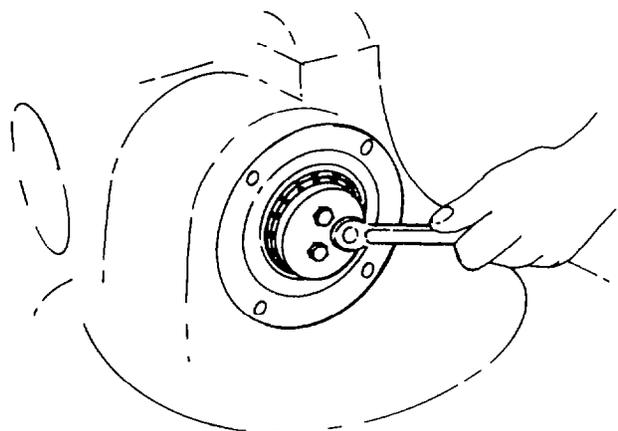

Fig. 285 — Removing Clamp Plate Retaining Bolts
- b. Remove the clamp plate retaining bolts and remove the clamp plate from the pinion shaft (see fig. 285).